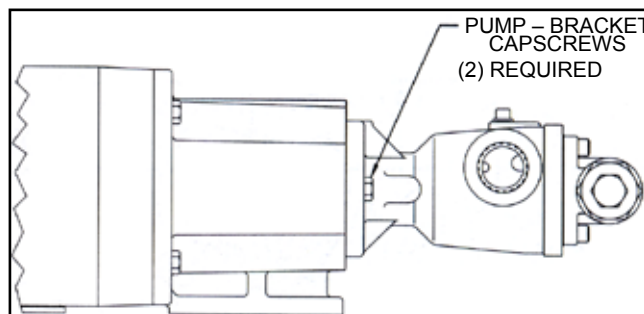

FIGURE 31
5. Be certain that the power supply to the pump is "Locked-out". Check that pump rotates freely by spinning motor fan blades or bearing carrier shaft. Finish the assembly by securing the pump to bracket (See Figure 31). Be certain that the power supply to the pump is "Locked-out". Check that pump rotates freely by spinning motor fan blades or bearing carrier shaft.